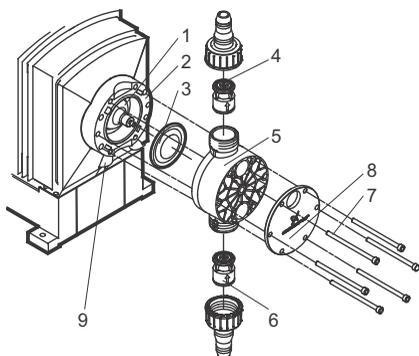

Fig. 27 Dosing head, exploded view (without deaeration valve)
This section refers to fig. 27.
If the diaphragm leaks or is broken, dosing liquid escapes from the drain opening (fig. 27, pos. 9) on the dosing head flange.
In case of diaphragm breakage, the safety diaphragm (fig. 27, pos. 1) protects the pump housing against ingress of dosing liquid.
When dosing crystallising liquids the drain opening can be blocked by crystallisation. If the pump is not taken out of operation immediately, a pressure can build up between the diaphragm (fig. 27, pos. 3) and the safety diaphragm in the flange (fig. 27, pos. 1). The pressure can press dosing liquid through the safety diaphragm into the pump housing.